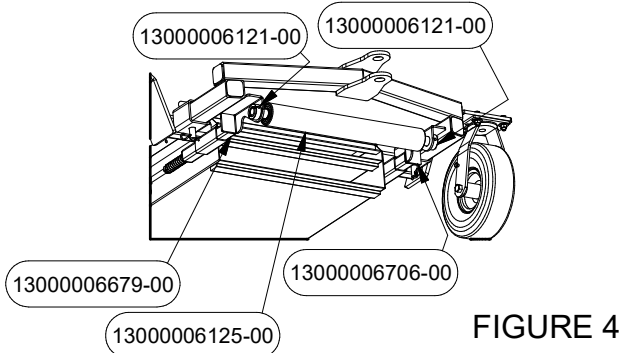

FIGURE 4
4. Slide LH bottom roller adjuster PN# 6679 and RH bottom roller adjuster PN# 6706 into jump. Insert bottom roller PN#6125 into adjusters and secure on each side using collars PN# 6121. See Figure 4. LH & RH bottom roller adjusters, bottom roller and collars are found in hardware box PN# 7341